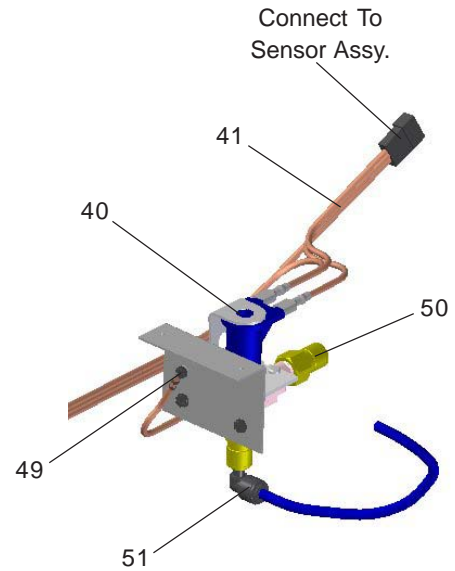

Figure 26 – View of Solenoid Valve
10. **Connect power cord of sensor to solenoid valve by running it through the back panel and connecting it as shown in Fig. 26.** Connectors may be connected to either terminal on solenoid valve. Attach ground wire to solenoid valve bracket with green ground screw.